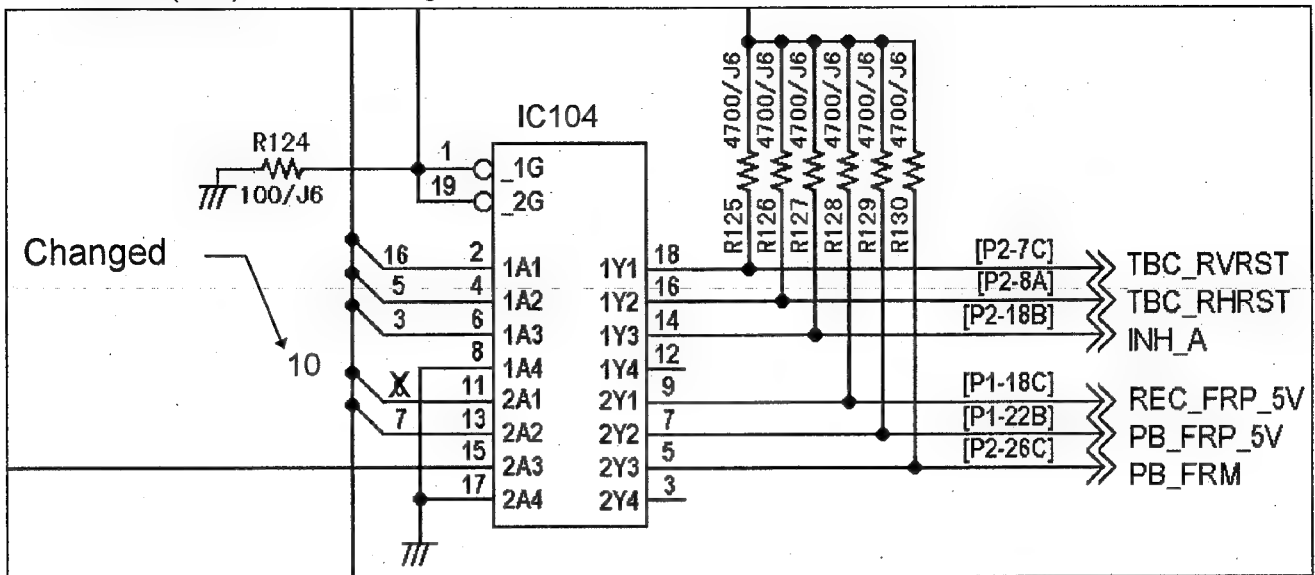

Fig. 1 Page 2-61 (B-8)
- 1). Cut the foil between pin #11 of IC104 and through hole (A) on the foil side as shown in figures 1 and 2.
- 2). Connect a jumper wire between pin #11 of IC104 on the foil side and through the hole and pin #4 of IC601 on the component side as shown in figures 1 and 2.